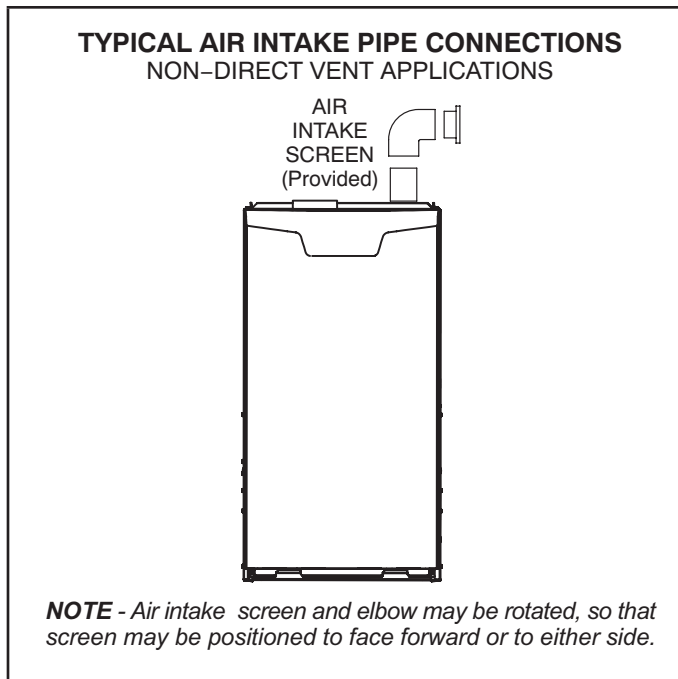

FIGURE 30
- 1 - Use field-provided materials and the factory-provided air intake screen to route the intake piping as shown in FIGURE 30. Maintain a minimum clearance of 3" (76mm) around the air intake opening. The air intake opening (with the protective screen) should always be directed forward, or sideways.